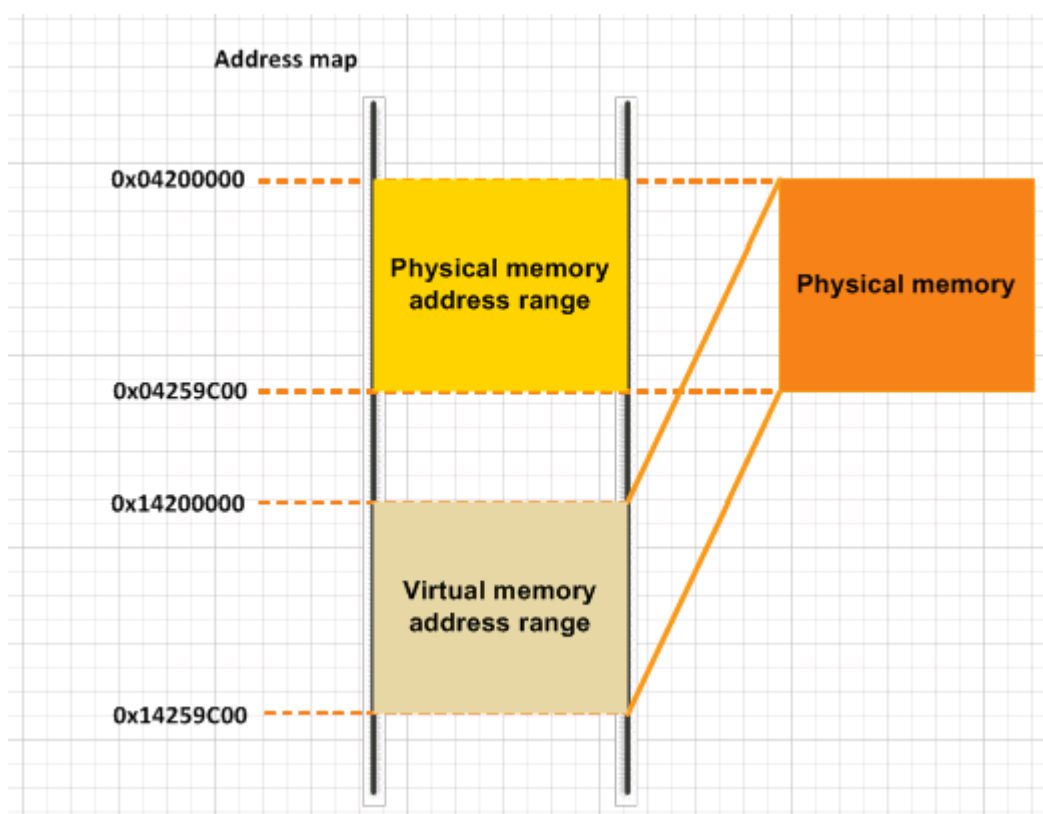

Figure 3-5 MT7682 virtual memory mapping
The virtual memory on the MT7682 is provided for cacheable memory and is implemented based on the memory mapping mechanism of ARM Cortex-M4. The virtual address range from 0x14200000 to 0x14259C00 is mapped to the SYSRAM address range from 0x04200000 to 0x04259C00, as shown in Figure 3-5. The virtual memory region (0x14200000 ~ 0x14259C00) is used as cacheable memory. All read-write (RW) data is stored in this region by default.